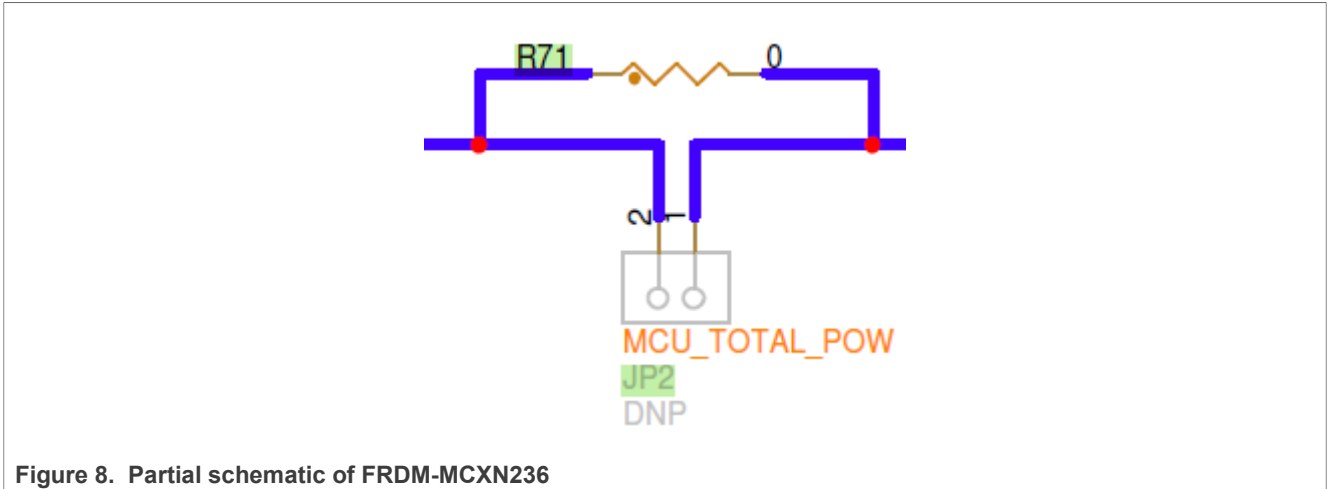

Figure 8. Partial schematic of FRDM-MCXN236
1. Remove R71, solder the header at JP2, and use the jumper to connect as shown in Figure 8.
As shown in Figure 8, the default configuration for this project is WAKEUP\_EN=0, which is used to reproduce the power consumption data in the data sheet. If you want to reproduce the wake-up time in the data sheet, update it to WAKEUP\_EN=1.